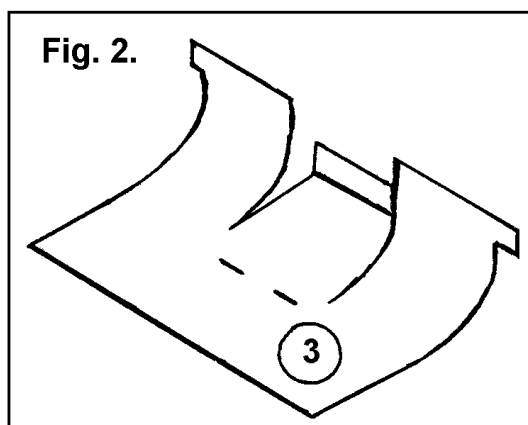

Fig. 2.
Remove front footplate (3) from the etch, treating with care as it can easily be damaged, bend the small lip up at right angles at the rear of the middle section. Form the curve on the sides to match the valance (Fig. 2) and solder into position.